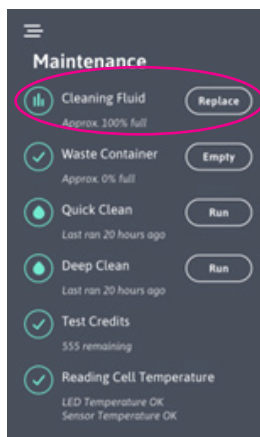

Figure 36
5. Press Cleaning Fluid Replace reset button in the Maintenance sub-menu to reset (Figure 36).